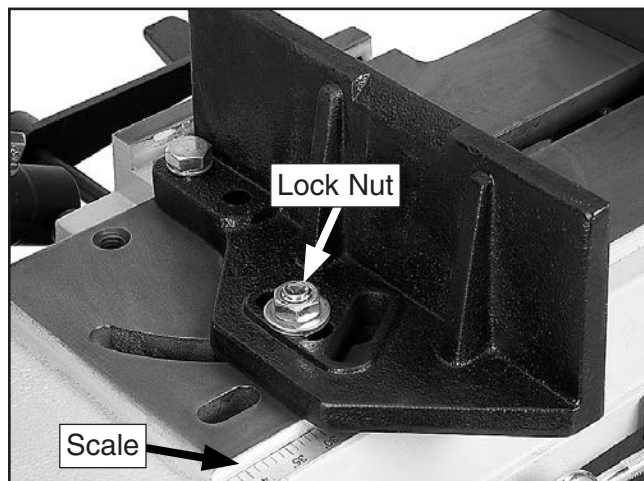

Figure 28. Location of scale.
1. Loosen lock nut on rear jaw with a $\frac{3}{4}$ " hex wrench, as shown in **Figure 28**.